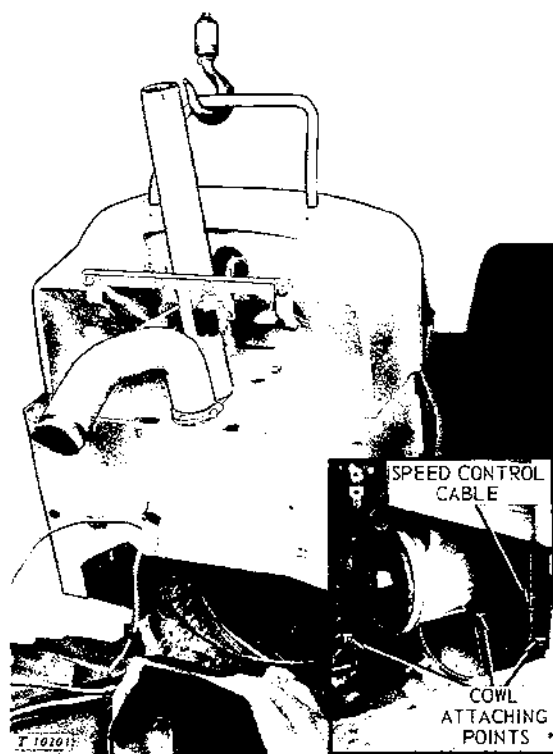

Fig. 20-10-1—Removing Cowl Support (Tractors without Loaders)
4. Remove two cap screws under cowl attaching cowl support to clutch housing or reverser case (see inset in Fig. 20-10-1).
7. With the aid of a chain hoist, lift cowl with support from tractor as shown in Fig. 20-10-1.